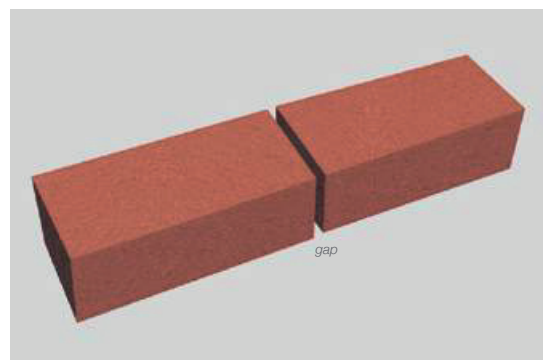

Figure 14.
**Note:** The window detail example shown frequently occurs on upstairs windows below the wall plate where only one or two courses of brickwork exist above the lintel. In these instances a contraction joint, which acts as a crack inducer, can be installed running vertically up the line of the jambs or ends of the lintels (see *Figure 14*). This can be filled with mastic and will have the effect of localising any potential cracking.